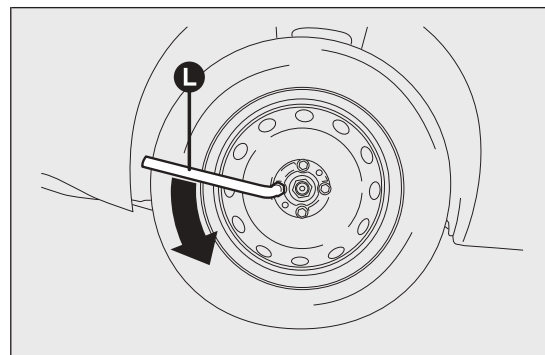

fig. 126
- ❑ loosen the bolts of the wheel to be replaced by about one turn with the wrench provided L fig. 126; if you have alloy rims, rock the car to make it easier to separate the rim from the wheel hub;